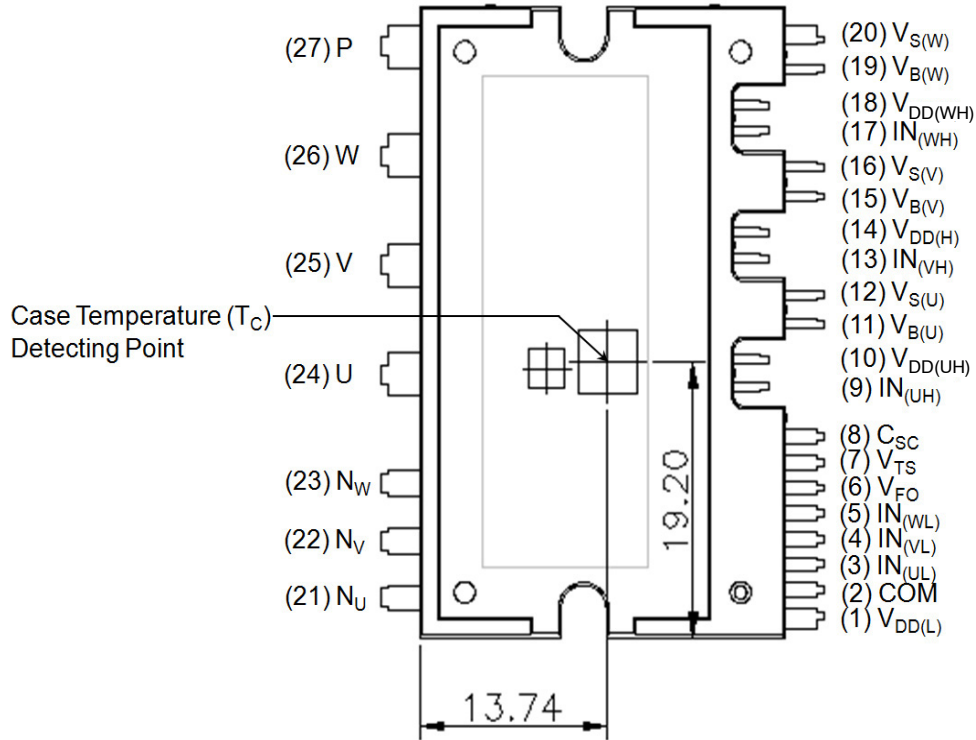

Figure 2. Top View
5. For the measurement point of case temperature (T_C), please refer to Figure 2. DBC discoloration and Picker Circle Printing allowed, please refer to application note AN-9190 (Impact of DBC Oxidation on SPM[®] Module Performance).